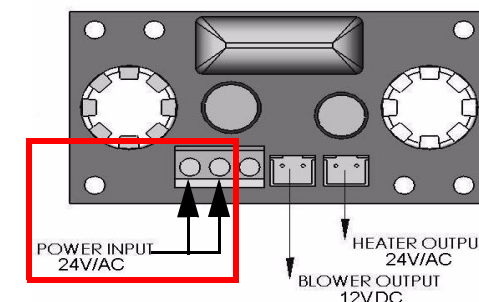
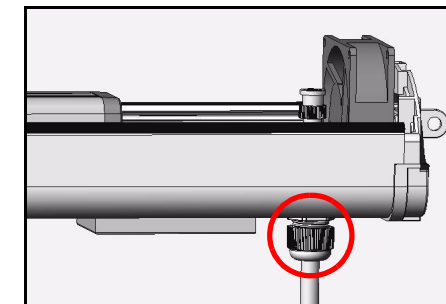

Figure 3.0 Connect wires (x2) to power input terminals
Figure 4.0 Feed cables through duct and tighten cap
6. Use a screwdriver (not included) to connect the 24V/AC, *non-polarized* wiring to the **power input** on the thermostat control board (see Figure 3.0). Tighten the conduit cap firmly to prevent moisture and dust from entering (see Figure 4.0).